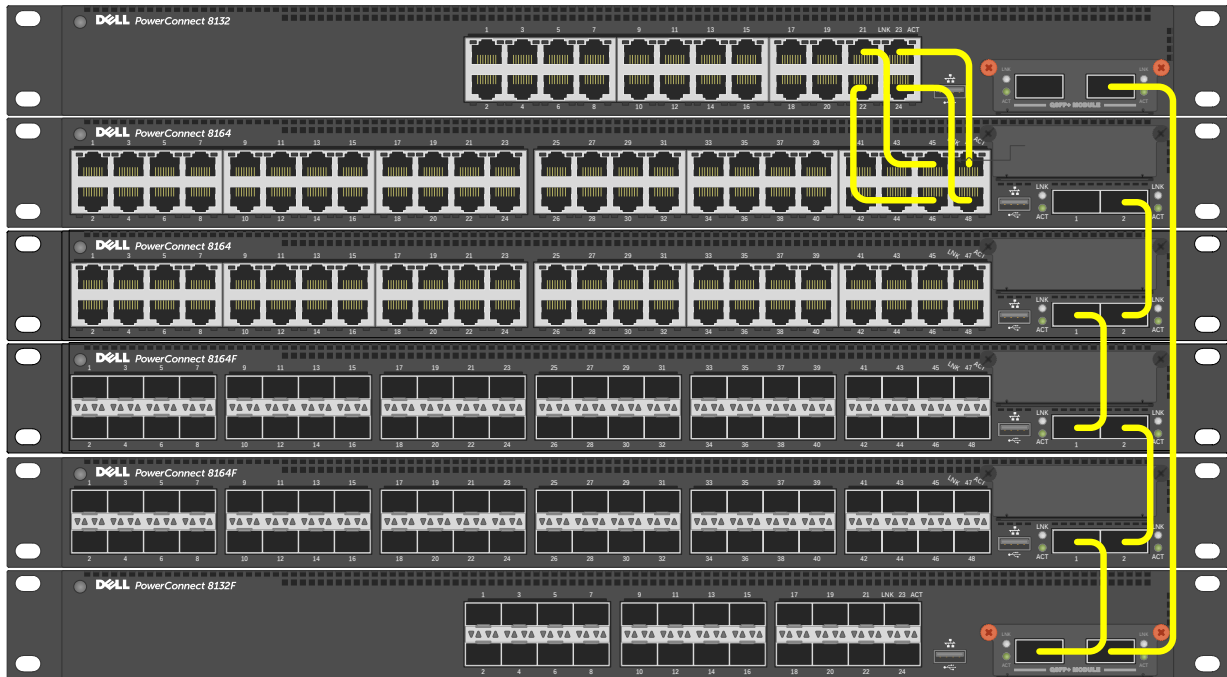

Figure 10 Stacking Dell PowerConnect 8100 series switches using 40G and 10G stack links
This scenario shows steps to create a stack. Figure 10 shows one example of connectivity between stack members.
- Only use interfaces with the same bandwidth to stack between members. It is not supported to mix 40G QSFP+ ports with 10G SFP+ or 10Gbase-T ports on a switch when stacking. It is okay however to use one interface type between two stack members, then a different interface type between two other stacking members as shown in Figure 10.